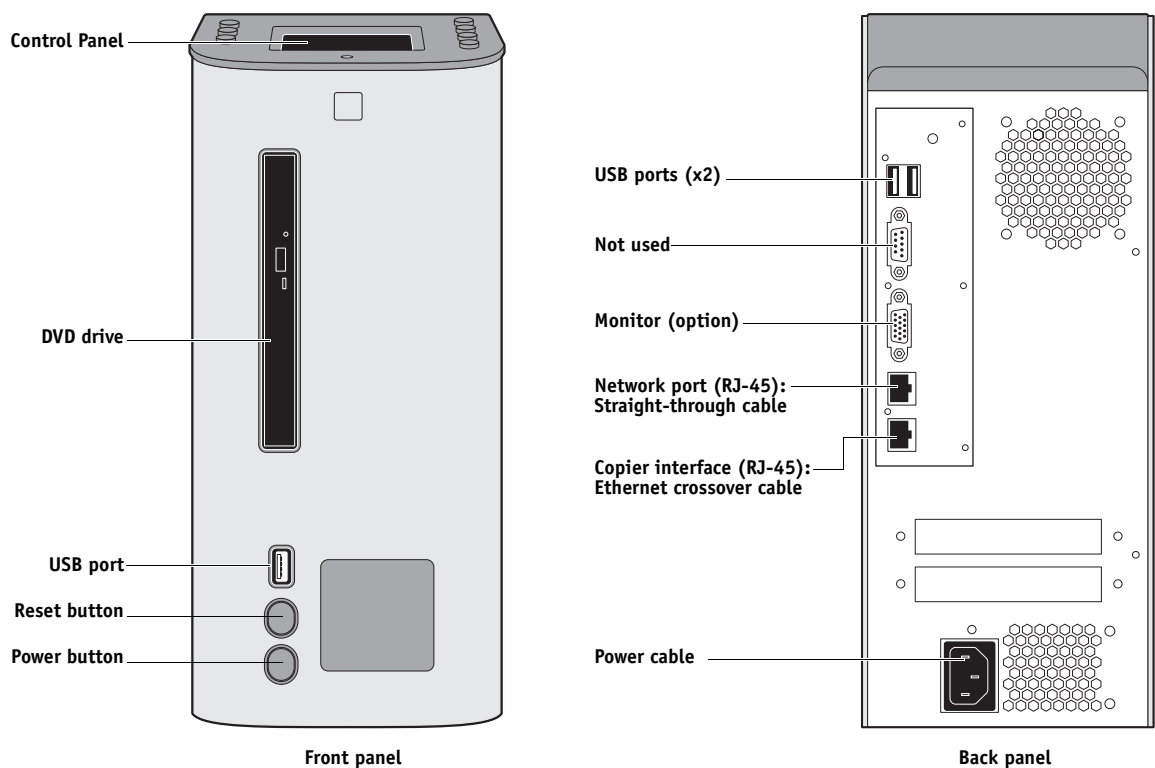

FIGURE 37: EB-1357 external cable connections
- All interface cables to the system are plugged into the proper connectors (see Figure 37).
NOTE: The copier interface cable included with the EB-1357 is a 16.4 ft. Ethernet *crossover* cable that connects to the **lower** RJ-45 port on the EB-1357 back panel. The network cable at the customer site is a *straight-through* Ethernet cable that connects to the **upper** RJ-45 port on the EB-1357 back panel. The cables look similar but are not interchangeable. Make sure you connect the cables to the correct ports (see Figure 37).